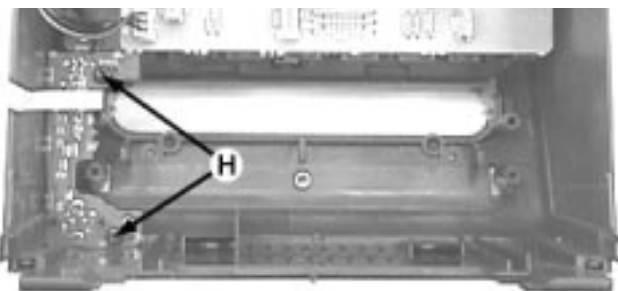

Figure 10
- 5) Loosen 2 screws H (see Figure 10) to remove the Headphone Board (pos 1107-F).